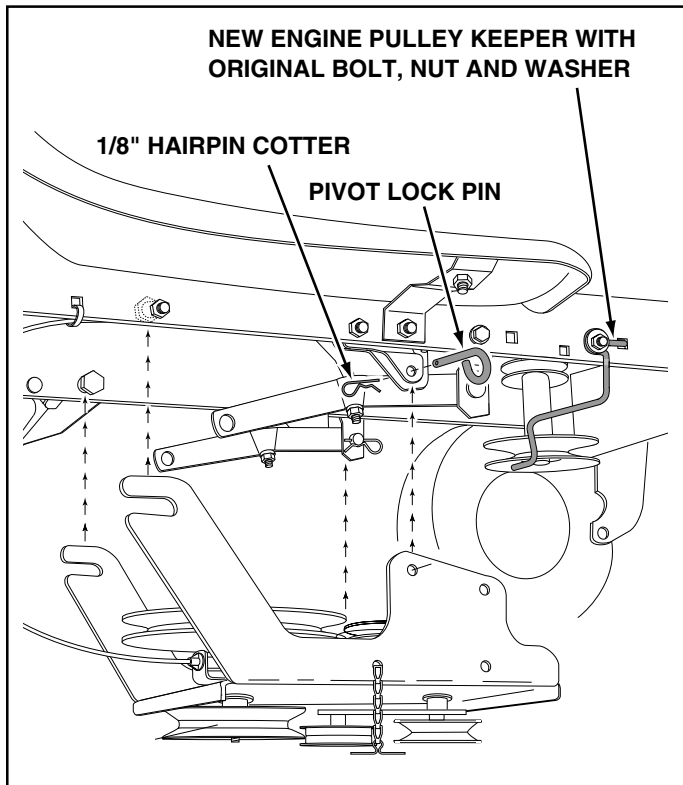

FIGURE 17
6. Remove the engine pulley keeper from the side of the tractor frame by removing the washer and nut that secure the keeper. Attach the new pulley keeper supplied with the snow thrower, reusing the original bolt, washer and nut. See figure 17.
7. Attach the clutch/idler assembly to the tractor frame by sliding the notched arms at the rear of the assembly onto the two shoulder bolts assembled to the inside of the tractor frame. Lift the front of the assembly, fitting the sides into the R.H. and L.H. hanger brackets. Attach the assembly to the brackets using two pivot lock pins and 1/8" hairpin cotters. See figure 17.